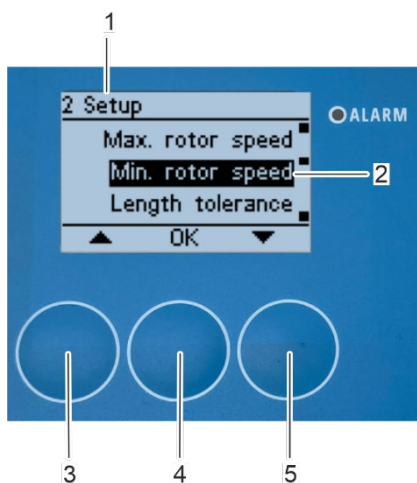

Fig. 132: Open submenu "minimum rotor speed"
⇒ The "2 Setup" submenu appears on the display again (Fig. 132/1).
1. Select the "Min. rotor speed" submenu (Fig. 132/2) with the arrow keys [up] (Fig. 132/3) and [down] (Fig. 132/5) in "2 Setup" submenu (Fig. 132/1).
2. Confirm the selection with [OK] (Fig. 132/4).